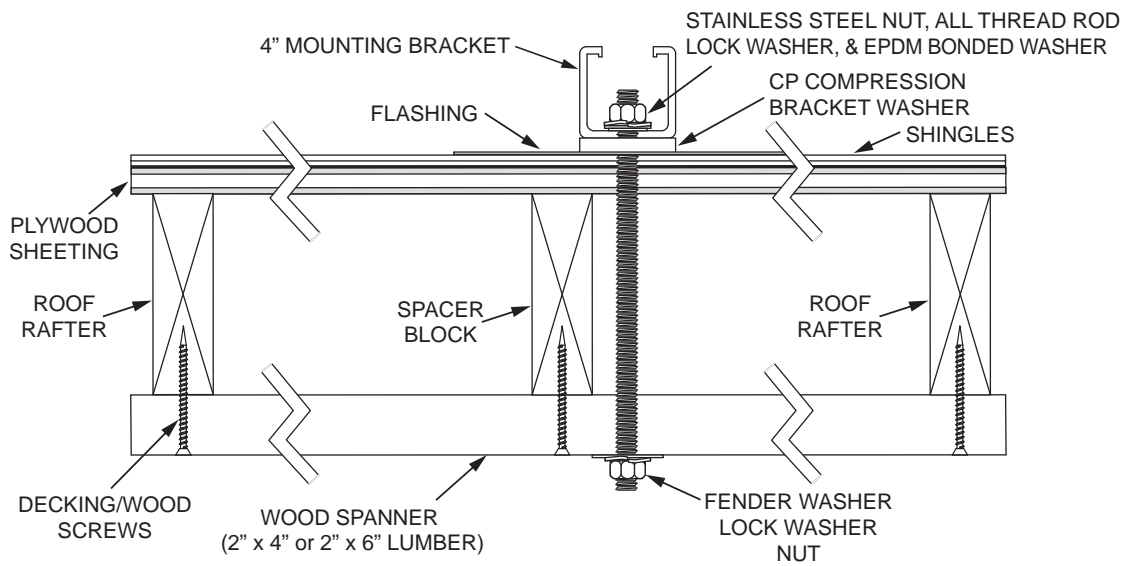

Figure 17.
3. The compression bracket washer is positioned over the flashing seal with the concave side towards the seal. See Figure 17.
6. Fabricate spanners, one for each mounting bracket, using a 2" x 4" or similar lumber. Spanners must be long enough to span at least two rafters. In the attic or crawl space drill a 5/16" hole through each spanner and insert the all-thread through it. Secure each spanner to the rafters with decking or wood screws. See Figure 17.
7. Fabricate spacer blocks, one for each mounting bracket, using a 2" x 4" or similar lumber the same width of the rafter next to each all-thread. Place spacer blocks next to the all-thread between the spanner and roof. Secure each spacer block to the spanners with decking or wood screws. Spacer blocks are necessary to avoid deformation of the roof. See Figure 17.